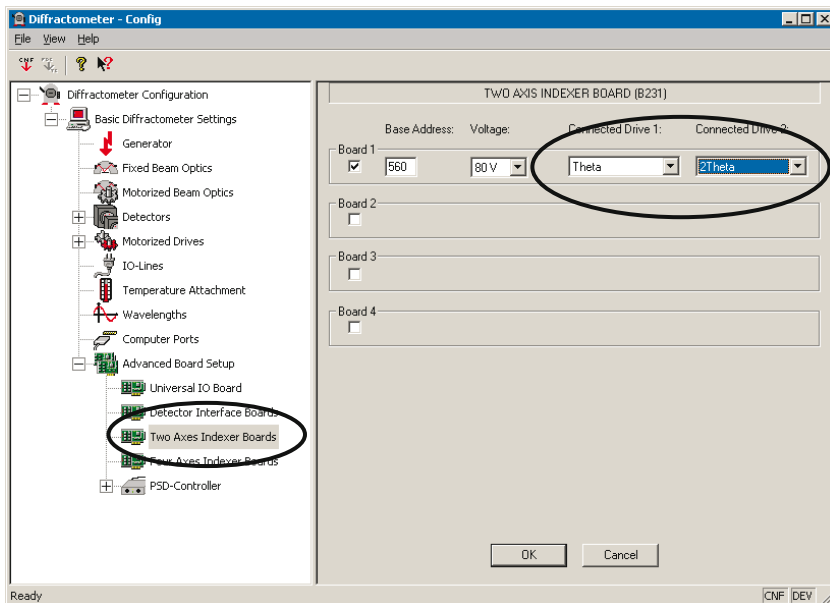

Figure 6.12 Advanced Board Settings - Two Axes Indexer Board. Settings for Theta-2Theta
2. Select **Advanced Board Setup > Two Axes Indexer Boards**. Ensure that physical drive 1 is connected to logical axis **THETA**, and physical drive 2 is connected to logical axis **2THETA** (see Figure 6.12).